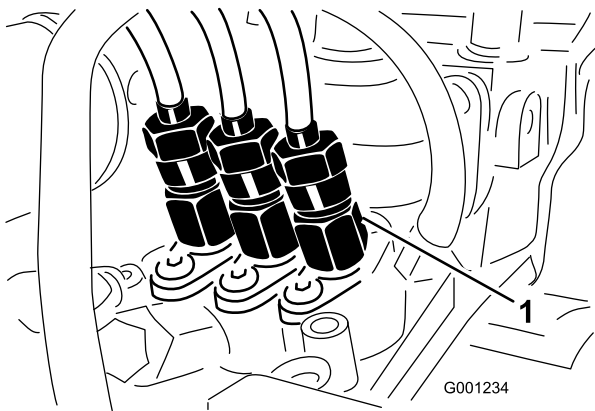

Figure 55
1. Loosen the tube nut at the No. 1 injector nozzle and holder assembly at the injection pump (Figure 55).